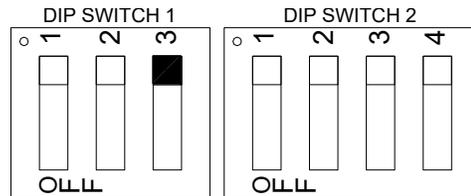

Figure 10
- CN2 terminal #4 will be the synchronization signal output terminal if the DIP switch #1-3 is set ON (Figure 10)